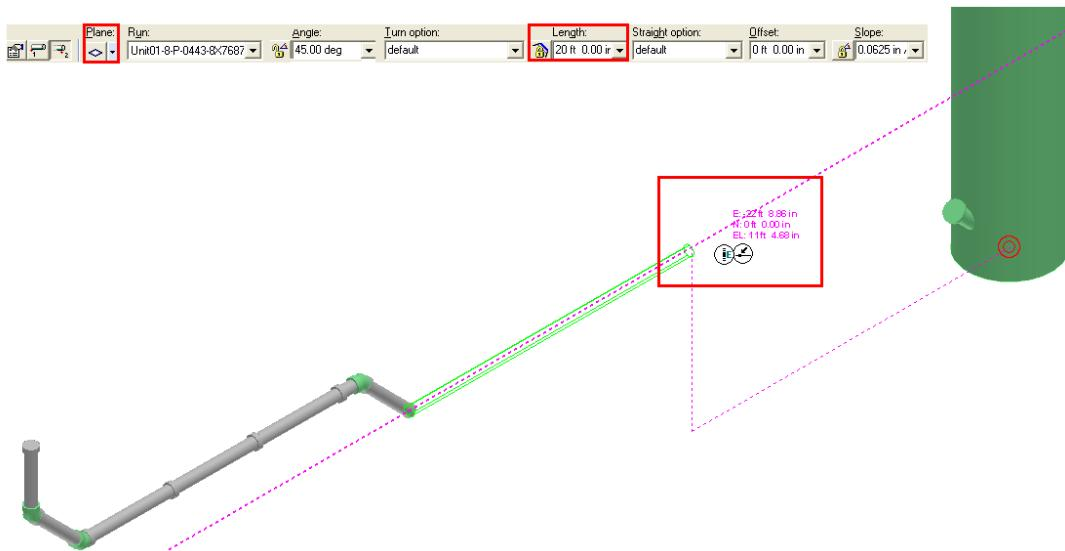

Figure 14: 20 Ft Pipe Routed
21. Select the **Lock Slope** option on the **Route Pipe** ribbon to constrain the routing to the minimum slope value and position the cursor until the SmartSketch indicator displays an **E** glyph. This glyph indicates that you are going in the easting direction, as shown in Figure 14.